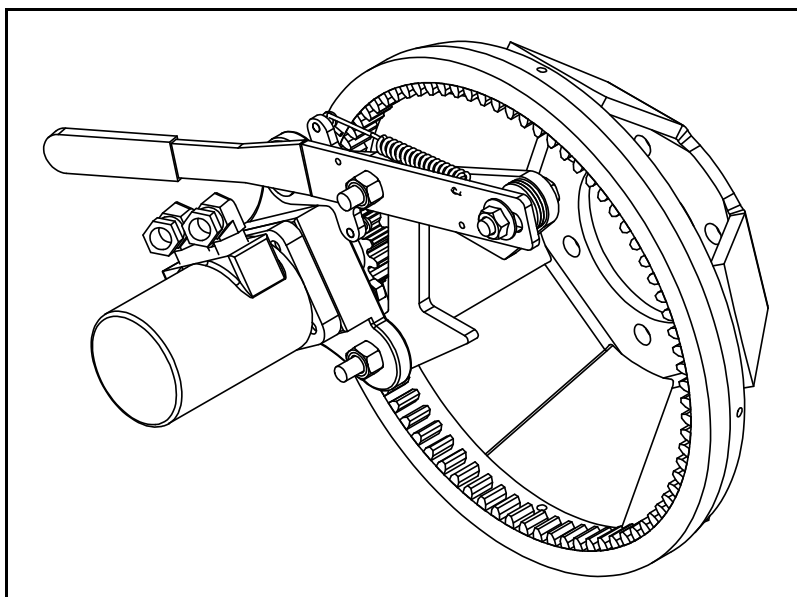

Figure 3.14 Pinion Gear Adjustment (Left Shown)
1. The pinion gear should mesh with the ring gear to provide maximum tooth contact (Figure 3.14).
2. If the pinion gear does not mesh fully with the ring gear, adjust the handle slot bolt (which bolts to the drive mount clamp) so full meshing of pinion gear is achieved when handle is in over-center position (Figure 3.14).